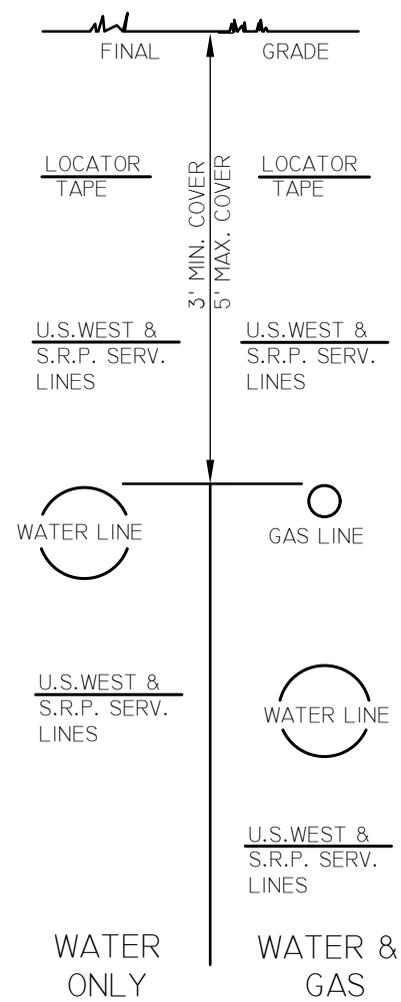

FIG. 1
1. IF THE CITY OF MESA'S FACILITIES HAVE LESS THAN THREE (3) FEET OF COVER, NON-CITY PUBLIC UTILITY COMPANIES WILL INSTALL THEIR FACILITIES UNDER THE CITY OF MESA'S FACILITIES.
2. IF THE CITY OF MESA'S FACILITIES HAVE THREE (3) FEET TO FIVE (5) FEET OF COVER, NON-CITY PUBLIC UTILITY COMPANIES MAY INSTALL THEIR SERVICE LINES (SECONDARY) AND CABLES ABOVE MESA'S FACILITIES. IN THIS SITUATION NON-CITY PUBLIC UTILITY COMPANIES SHALL INSTALL THEIR TRUNK LINES (PRIMARY) UNDER MESA'S FACILITIES. SEE FIG. 1.
4. IN CERTAIN SITUATIONS THE CITY OF MESA HAS FACILITIES THAT ARE PARALLEL BUT SEPARATED BY SOME HORIZONTAL DISTANCE. IT IS POSSIBLE THAT MESA'S FACILITIES WOULD BE AT DIFFERENT DEPTHS THEREBY ALLOWING NON-CITY PUBLIC UTILITIES TO PASS UNDER ONE FACILITY, OVER ANOTHER, AND STILL COMPLY WITH THE ABOVE NOTES. IF THE HORIZONTAL SEPARATION BETWEEN MESA'S FACILITIES IS THREE (3) FEET OR LESS AND THE NOTES REQUIRE THAT NON-CITY PUBLIC UTILITIES PASS UNDER ONE OF MESA'S FACILITIES, THEY SHALL PASS UNDER BOTH OF MESA'S FACILITIES.
5. NON-CITY PUBLIC UTILITY COMPANIES WILL INSTALL MARKER TAPE MATERIAL FIVE (5) FEET EACH WAY OF A CROSSING (ONE FOOT ABOVE CABLES) WHEN ANY CABLE IS INSTALLED ABOVE THE CITY OF MESA'S FACILITIES.
6. NON-CITY PUBLIC UTILITY COMPANIES SHALL INSTALL BURIED CONDUIT AND/OR CABLE AT SUFFICIENT DEPTH SO AS TO PROVIDE AT LEAST TWELVE (12) INCHES OF VERTICAL CLEARANCE WHETHER ABOVE OR BELOW WATER AND GAS LINES. A TWENTY-FOUR (24) INCH HORIZONTAL SEPARATION SHALL BE MAINTAINED FROM EXISTING OR PROPOSED WATER AND GAS LINES, PURSUANT TO THIS DETAIL.
7. FIGURES 1 AND 2 APPLY ONLY TO CROSSINGS AND NOT TO PARALLEL INSTALLATIONS.